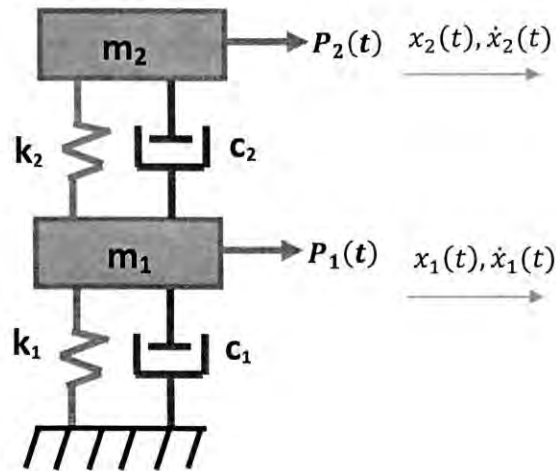

Figure 3
- [3] Write down the equation of motion in **matrix form** for the dynamical system described in Figure 3? Find the **Eigenfrequencies and Mode Shapes** of the aforementioned system?